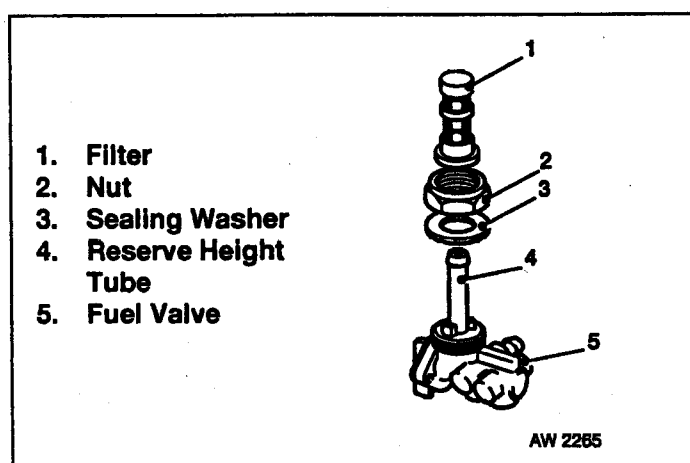

Fig 4.4 Fuel Valve
(1) Assembly is the reverse of the disassembly procedure. Be sure that all hose clamps on the intake manifold and airbox manifold are tight. Replace hose clamps throughout if necessary.
a. Fuel Valve Removal/Installation. (Fig 4.4 refers).
(1) The fuel valve may be removed from the tank by unscrewing the valve fitting.